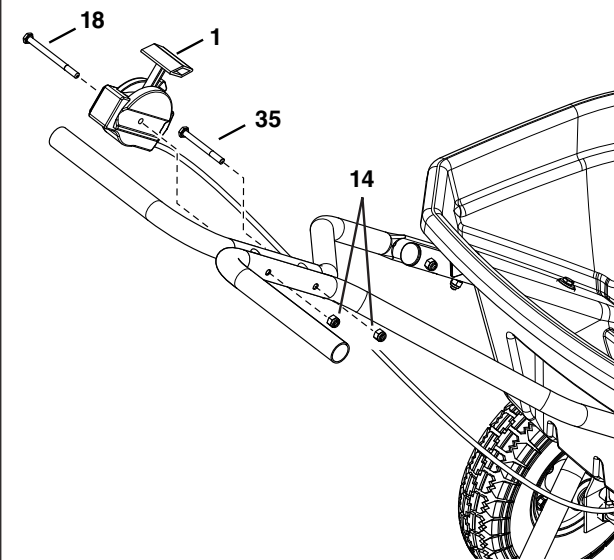

Figure 10
STEP 11: (SEE FIGURE 10)
- Attach the control cable (1) to the handle tubes using one 1/4" x 3-1/4" hex bolt (18), and a 1/4" nylock nut. (14).
- Attach the handle tubes together using a 1/4" x 2-1/2" hex bolt (35) and a nylock nut (14).